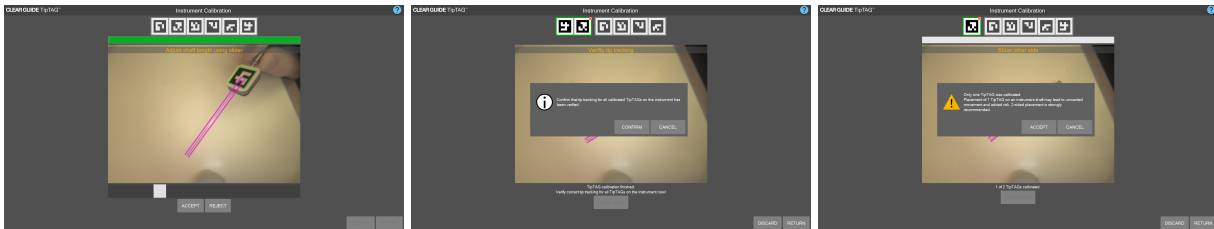

Figure 23: Adjust shaft length (left); confirming number of calibrated TipTAG markers (all)
- **Adjust the detected shaft length** manually with the length slider to line up the magenta lines with the actual tip position, and press **ACCEPT** to confirm the new TipTAG instrument or **REJECT** to collect new shaft observations. The newly confirmed marker will be added to the list of calibrated markers on the top of the screen (Figure 23 left).
- If not all TipTAG markers were calibrated, the system will ask for confirmation (Figure 23 center, right).